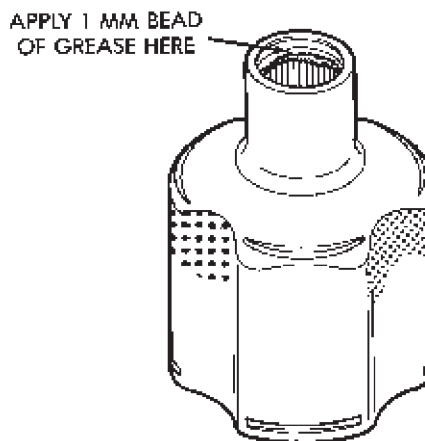

Fig. 10 Grease Applied To Inner Tripod Joint Spline
(2) Evenly apply a bead of grease, such as Mopar Multi-Purpose Lubricant or an equivalent, around spline of inner tripod joint (Fig. 10), where the O-Ring seats against tripod joint. This will spread grease onto stub shaft during tripod joint installation preventing corrosion and help to seal the O-ring.
(3) Install drive shaft through hole in splash shield. Grasp inner tripod joint in one hand and interconnecting shaft in the other. Align inner tripod